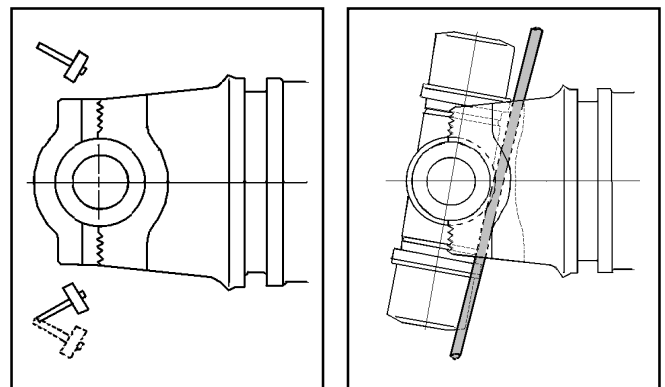

Figure 12 Cross kit (cross and bearings) disassembly
(2) 190 series, P series (Figure 12)